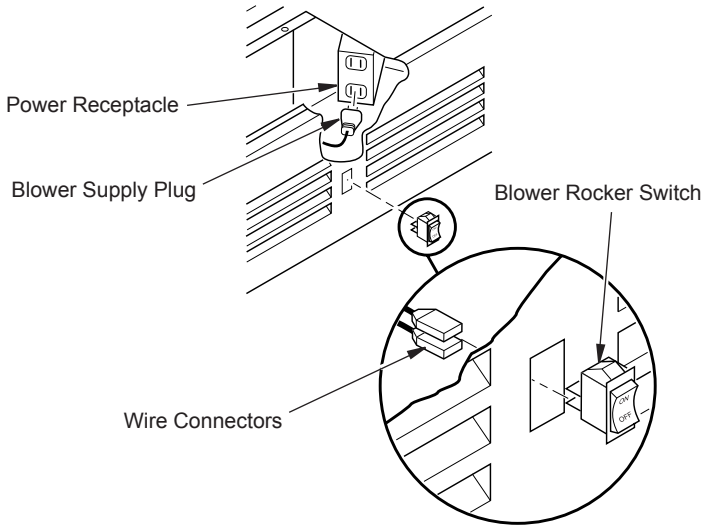

Figure 5 - Connecting Switch and Supply Plug
1. Remove 2 connectors from ON/OFF rocker switch located on wiring harness. See Figure 5.
4. Insert supply plug into one of the available power receptacles at the right side of compartment. See Figure 5.